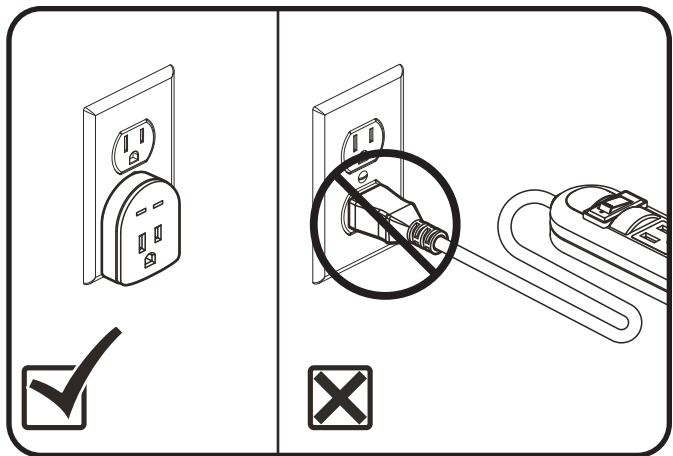

Figure 4.3 Surge Protector
- Plug the power cord directly into the electrical outlet. **Do not use an extension cord! See fig 4.3.**